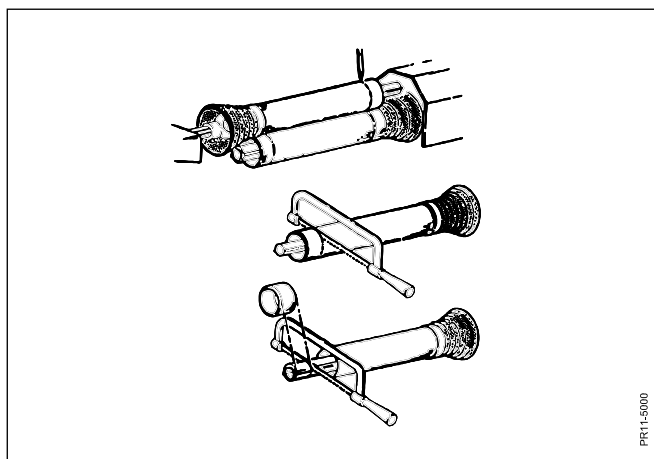

Fig. 2-13
**Fig. 2-13** Fasten the halves of the shaft to PTO and PIC (fig. 2.11) respectively when these are immediately opposite each other with the machine in the operating position. (The longest distance on this machine). Hold the shaft ends parallel to each other and mark the desired amount to be shortened, but with an overlap of no less than 200 mm. Shorten all four tubes by the same amount.